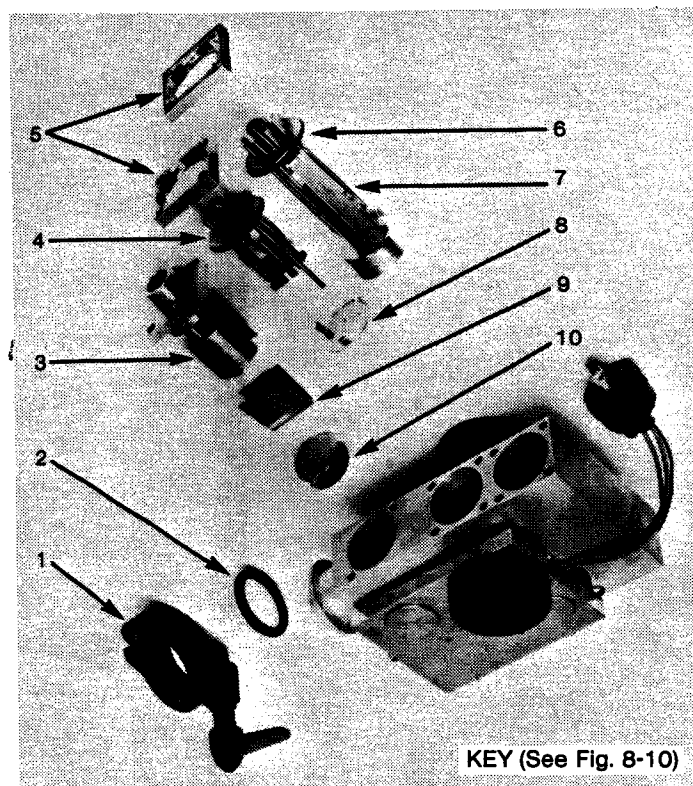

Figure 6-27. Spectrometer Tube
5. Remove right side panel. Remove the three electrical plugs at the top of the spectrometer tube. Unplug the heater. Loosen the compression fitting and pull to break vacuum. (Figure 6-27 is an "exploded" view of the spectrometer tube.)